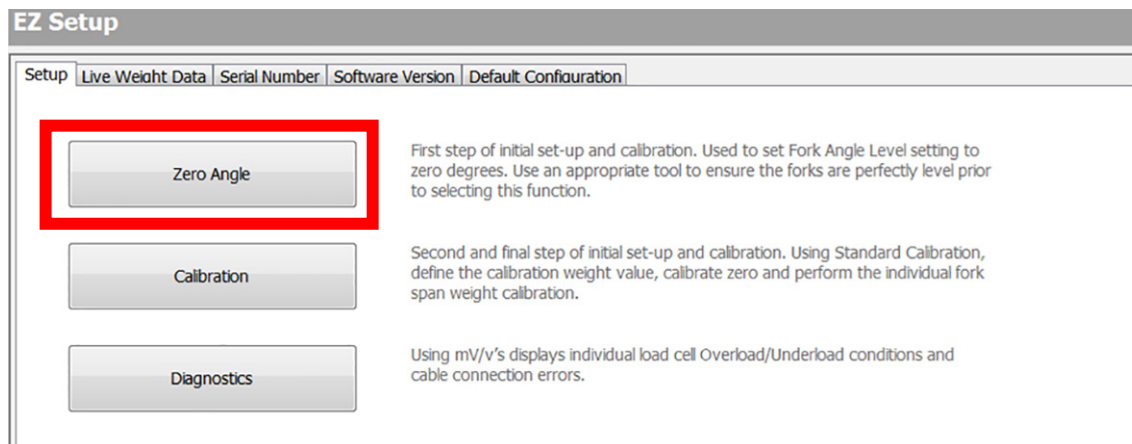

Figure 5-1. Zero Angle
2. In the setup screen, press **Zero Angle** (Figure 5-1).
3. A prompt appears as shown in (Figure 5.1). Press **OK** to close the pop-up box.